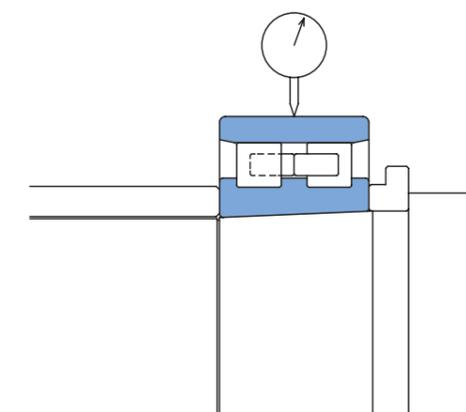

Figure 9.11 Final Assembly Radial Clearance Check
- Again, measure the radial clearance and confirm that the desired radial clearance is provided [Figure 9.11].